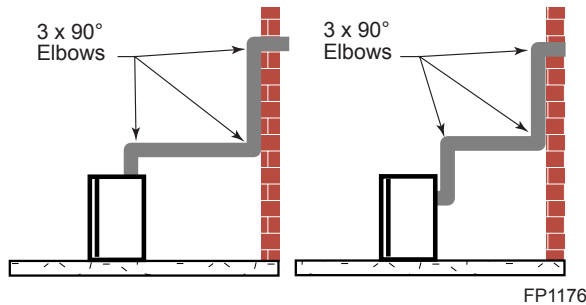
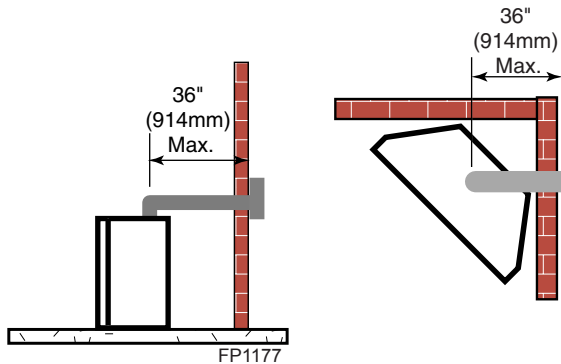

Figure 21 - Maximum three (3) 90° elbows per installation
Figure 22 - Maximum horizontal run with no rise
- The maximum number of 90° elbows per side wall installation is three (3). *Figure 21*
- If a 90° elbow is fitted directly on top of the fireplace flange the maximum horizontal vent run before the termination or a vertical rise is 36" (914 mm). *Figure 22*
- If a 90° elbow is used in the horizontal vent run (level height maintained) the horizontal vent length is reduced by 36" (914 mm). *Figures 22 & 23*. This does not apply if the 90° elbows are used to increase or redirect a vertical rise. *Figure 21*